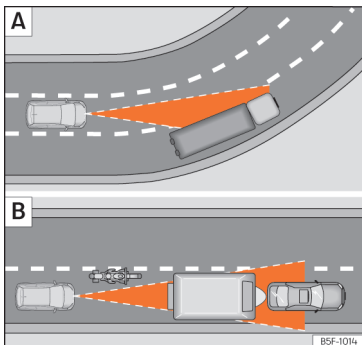

Fig. 107 [A] Vehicle on a bend. [B] Motorcyclist ahead, out of range of the radar sensor.
The ACC may not detect the vehicle in front on a curve, or may regulate the distance from vehicles in other lanes >>> Fig. 107 [A].
- Vehicles that are not aligned while driving or that are outside the sensor's detection area, such as motorcycles >>> Fig. 107 [B].